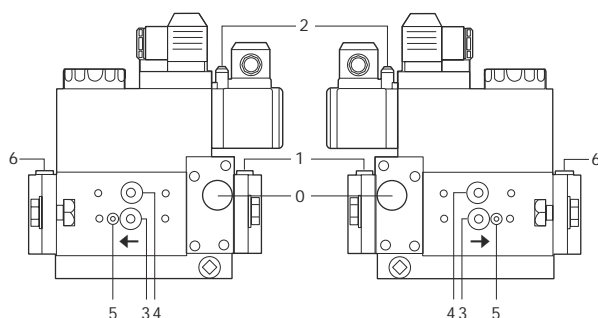
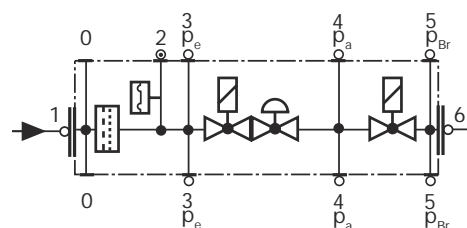

Fig. 25
Fig. 26
- Clean and examining the gas filter cartridge, if necessary replace it (Fig. 25 on).
- Change the filter if the pressure difference between pressure connection 1 and 3 (Fig. 25-Fig. 26) is $\Delta p > 10$ mbar.
- Change the filter if the pressure difference between pressure connection 1 and 3 (Fig. 25-Fig. 26) is twice as high compared to the last check.